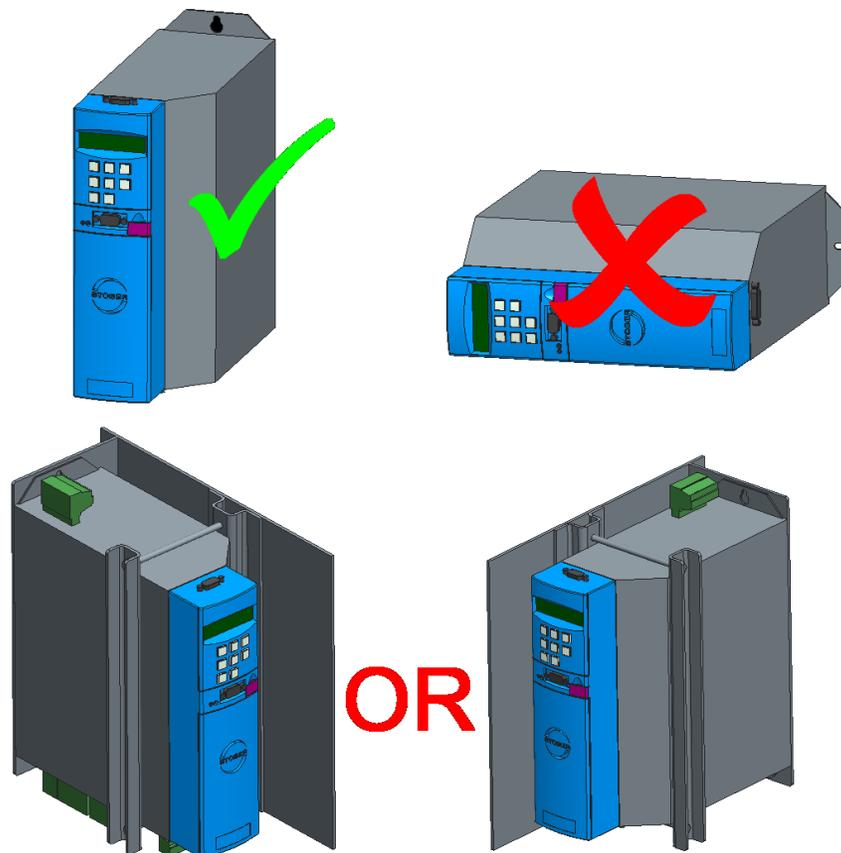

Figure 5-2. Driver Position in Cabinet
- The drivers must be installed vertically. Mounting attitude and examples of support assemblies are shown in Figure 5-2.